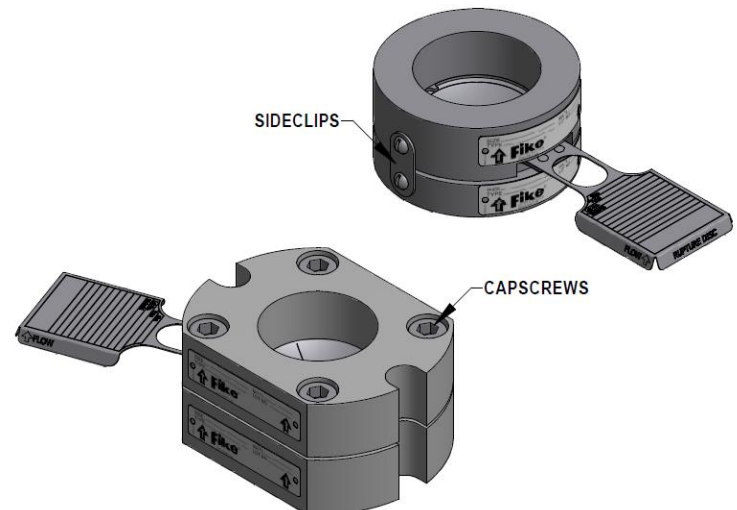

Figure 2 - Insert Holder (Top) and Pre-torqueable Holder
1. Carefully take the rupture disc holder apart by removing the sideclips or capscrews and discard the white shipping protector (See Figure 2).